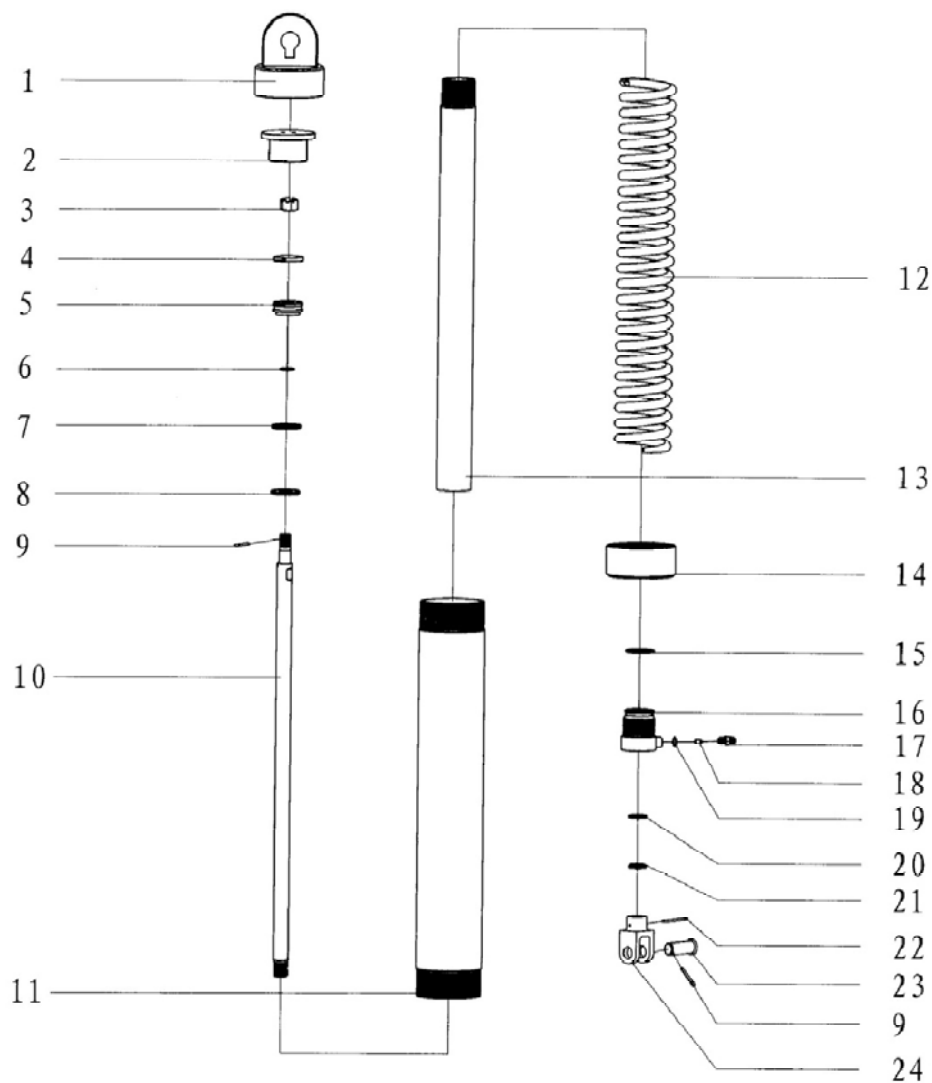

Fig 22 Hydraulic spring suspending device (KHT9625-52)
7.19. Hydraulic spring suspending device (Fig22, Table21)